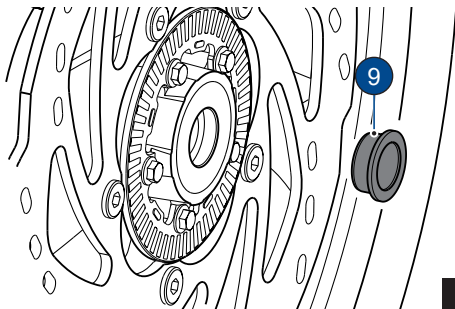

Fig. 67
- Take out the spacer bush (9) from the left side of the wheel hub (**ref. Fig. 67**).
- Fix the spacer bush (9) on the left side of wheel hub (**ref. Fig. 67**).